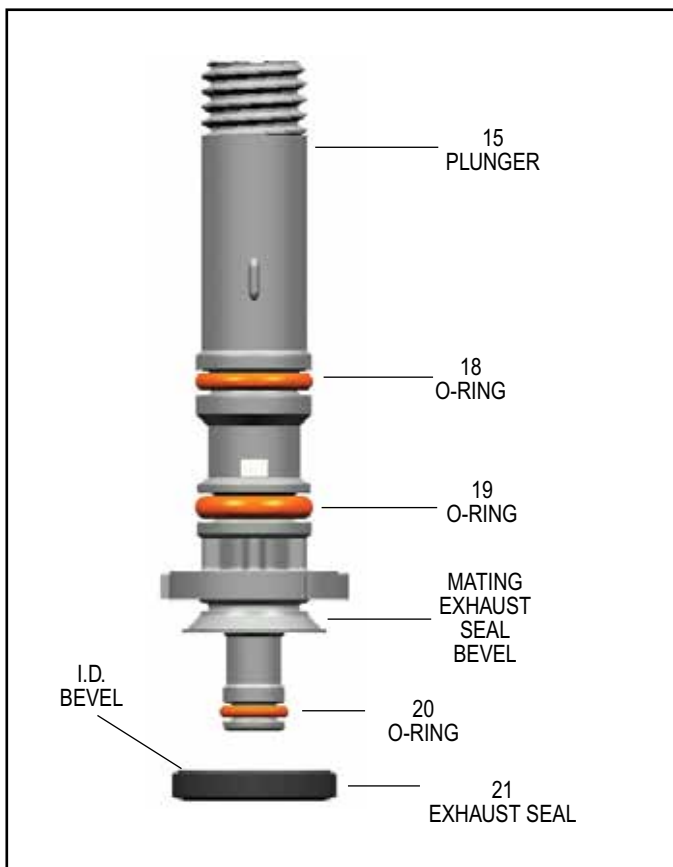

FIGURE 7 - PLUNGER AND EXHAUST SEAL
1. Install o-rings (18,19 & 20) and the exhaust seal (21) onto the stem of the plungers (15).
CAUTION: The exhaust seal (21) must be installed so that its beveled surface mates with the beveled surface of the plunger (Figure 7).
2. Install the o-ring (16) onto the guide spool (14). Install the guide spool assembly over the threaded end of the plunger (15) and press down firmly until it contacts the plunger flange.